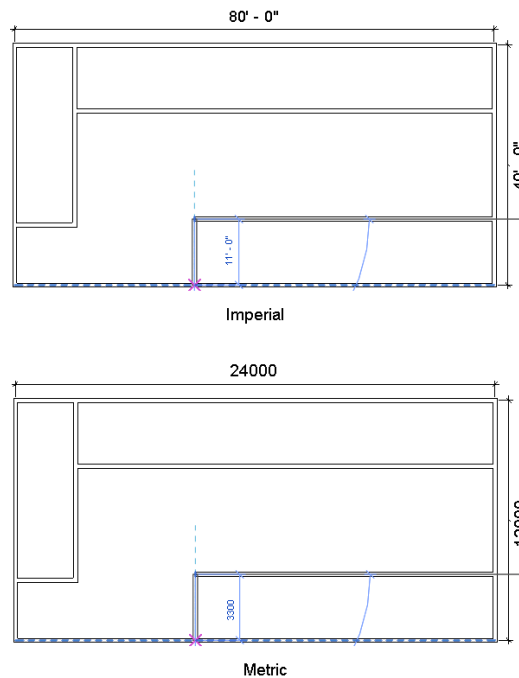

Figure 3-71 Sketched wall segment
- Add grids using the **Grid** tool, refer to Figures 3-71 through 3-73.
option is selected. Now, move the cursor vertically downward near the lower exterior wall segment; the interior wall segment is sketched, as shown in Figure 3-71.